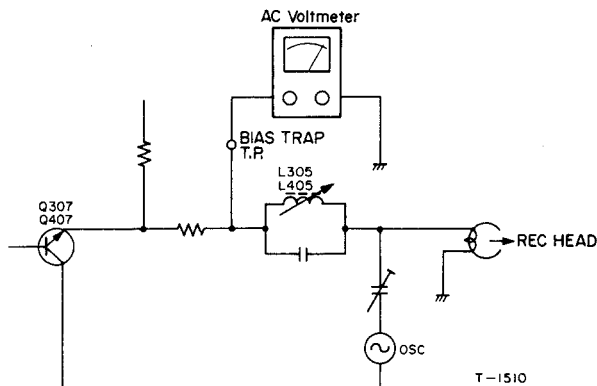

Fig. 6-11 Connection
3. Adjust L305/L405 for a minimum reading between the BIAS TRAP test points and ground. See Fig. 6-11.